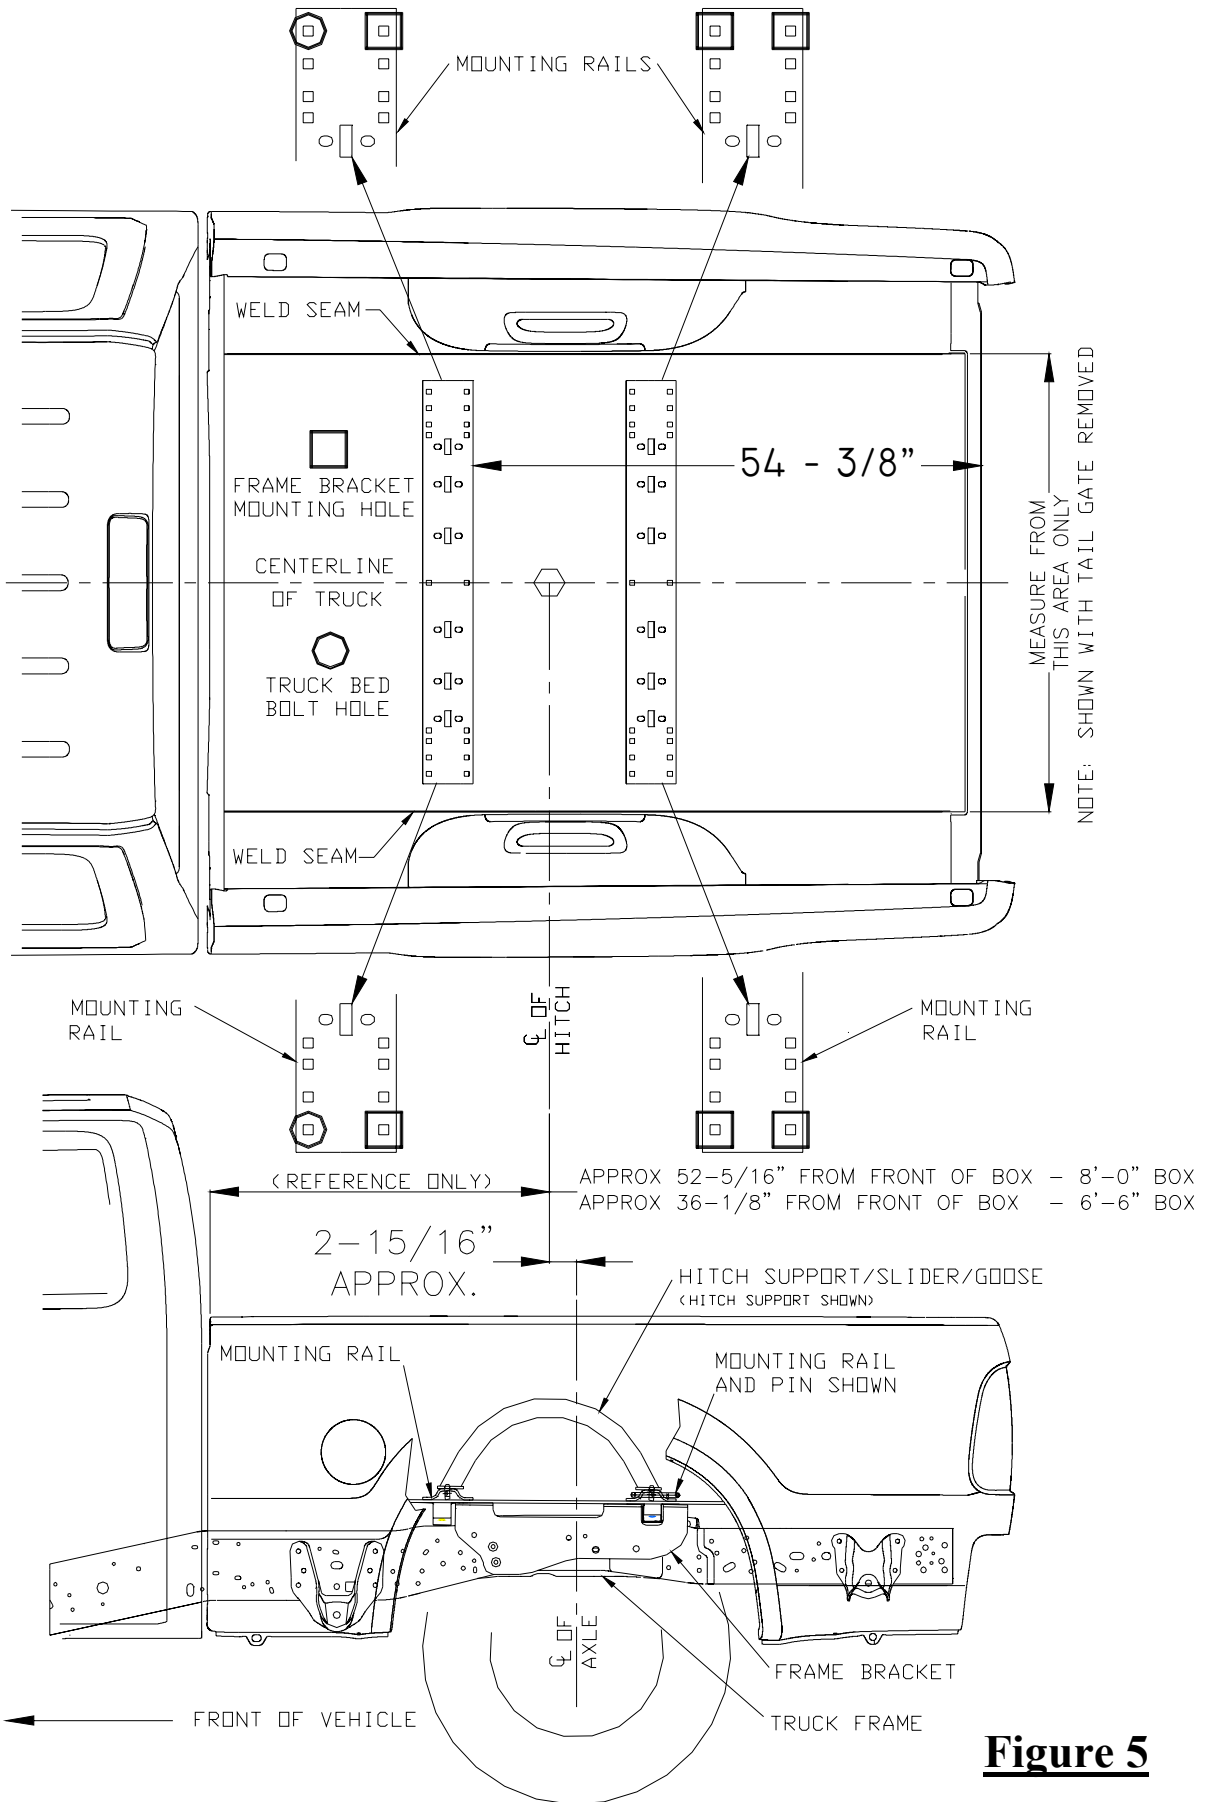

Figure 5
4. Place the front mounting rail in the box of the truck. Using your tape measure, center the rail between the weld seams on the length of the truck box floor and the proper distance from the rear edge of the truck box as illustrated in Figure 5.
5. Mark and center punch the holes as per the illustration in Figure 5. Move the rail out of the way and drill each position with a 1/8" drill bit. **Warning: When drilling holes be aware of potential risks to vehicle components and make appropriate safe guards to protect them from damage.**